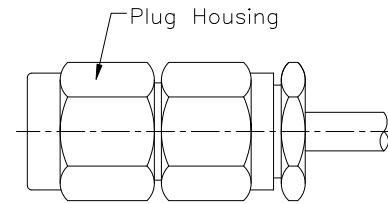

Figure 6
3.4. Secure Plug Housing to Clamp Nut (See Figure 6)